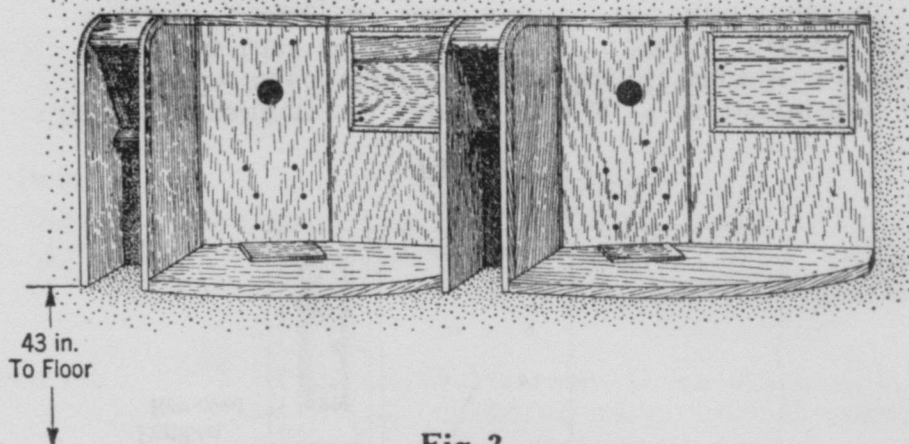

Fig. 2
4.02 Locate the shelves singly or in groups along walls as indicated in Fig. 2.
4.04 Where a lower mounting than indicated in Figs. 2 and 3 is desired in special cases at Army and Navy hospitals, etc., the wood seat bracket used in telephone booths or similar